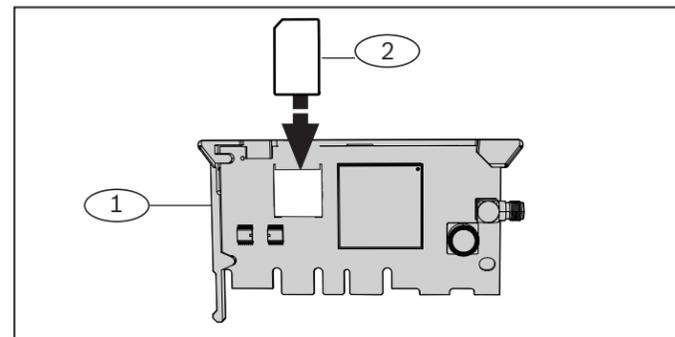

Figure 2.1: Inserting the SIM card
2. Insert the SIM card into the SIM card holder on the module by sliding it into the card holder. Make sure that the gold contact side of the SIM card is against the module. Refer to *Figure 2.1*.